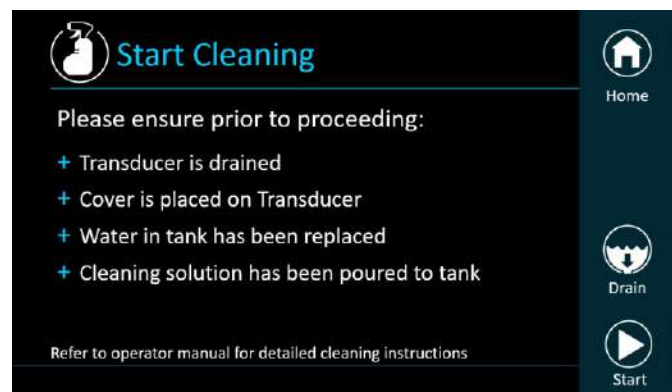

Figure 12-8: 'Clean' Menu
The system will switch to Clean Mode (**Figure 12-8**)
Step13. Press 'Start' button to start the cleaning operation (**Figure 12-8**). A countdown timer will appear, displaying the remaining Tank cleaning time (**Figure 12-9**)